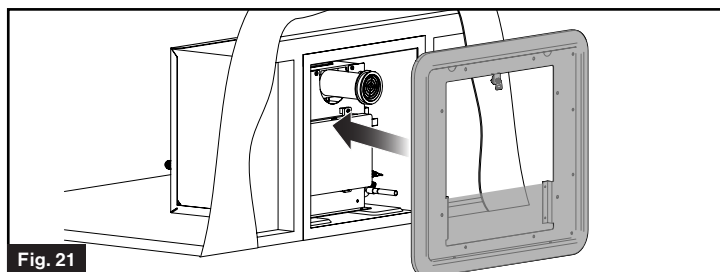

Fig. 21
1. Insert the door flange into the water heater housing and press the flange firmly against the sidewall. (Fig. 21)